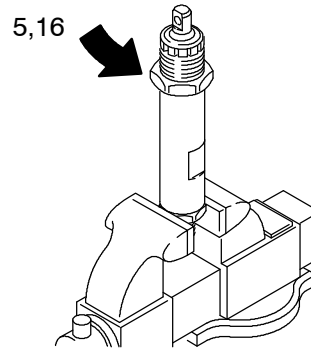

Fig. 5
Fig. 5 and parts lists. Loosen plug (5) and packing nut (16).